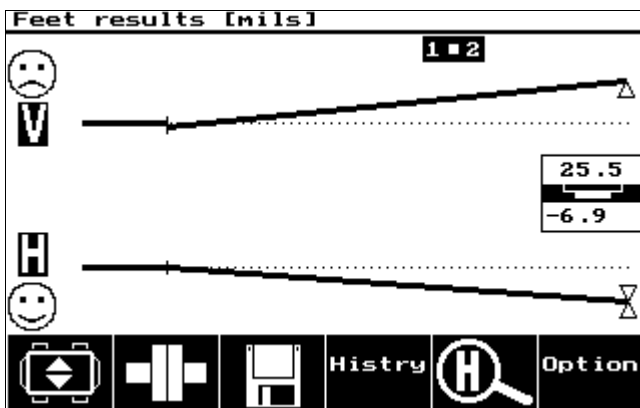

Figure 3
- Now take alignment readings as usual and go to the Results screen. View both foot positions and alignment conditions at the coupling (see Figures 3 and 4). The graph on the ROTALIGN® PRO's screen represents the rotor shaft's centerline relative to the stationary centerline, and is one of the lines that you will need to graph yourself. The foot result indicates the position of the bearing relative to the stationary centerline (Figure 3). Offset